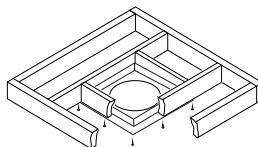

Figure 28 - Installing Firestop
1. Cut a 11 1/2" square hole in ceiling using locating hole as a center point. The opening should be framed to 11 1/2" x 11 1/2" (292 mm x 292 mm) inside dimensions, as shown in Figure 12 on page 11 using framing lumber the same size as ceiling joists. If area above ceiling is an insulated ceiling or an attic, nail firestop from top side. This prevents loose insulation from falling into required clearance space. If area above ceiling is a living space, install firestop below framed hole. Firestop should be installed with no less than three nails per side (see Figure 28).